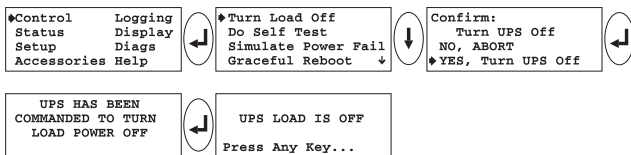

Fig 5-25 Power Down the Load Sequence
- ❑ 12. Power down the load equipment by following the screen sequence in figure 5-25.